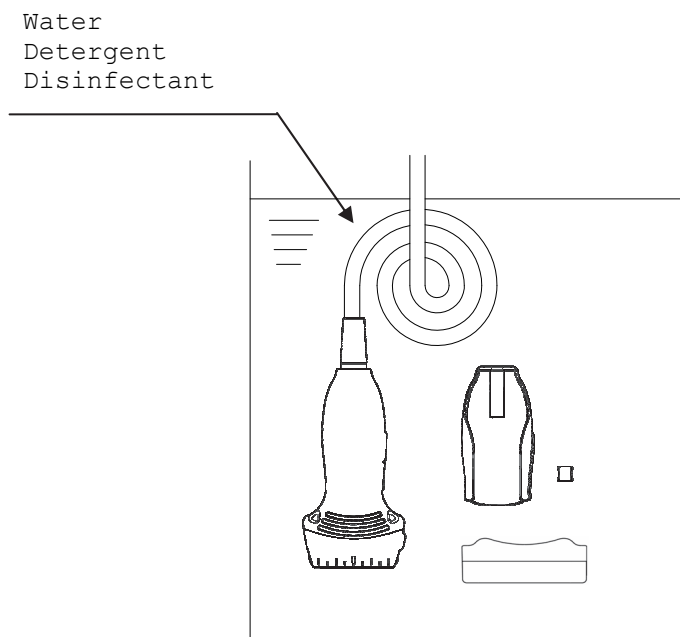

Fig. 17 Immersion of the probe, the magnetic sensor attachment, the spacer for EZU-RV2S and the elasto Coupler
- 2) Immerse the immersible part of the probe without connector into the diluted detergent solution (see Fig. 17). Wipe the immersible part of the probe under the surface of the detergent solution with a soft cloth to remove all visible soil. Be sure that all grooves of the probe are implemented during the cleaning process.
- 5) Rinse the probe with running tap water for 1 minute. (alternatively: immerse the immersible part of the probe in a tray filled with deionized water/tap water (see Fig. 17) for 5 min.)
- 4) Rinse the magnetic sensor attachment and the spacer for EZU-RV2S with running tap water for 1 minute. (alternatively: immerse them in a tray filled with deionized water/tap water (see Fig. 17) for 5 min.)
- 3) Immerse the immersible part of the probe into the disinfectant (see Fig. 17). Set a clock to insure the recommended contact time which is 5 minutes.
- 4) Rinse the immersible part of the probe with deionized water for 1 minute. (alternatively: immerse the immersible part of the probe in a tray filled with deionized water (see Fig. 17) for 5 min.)
- 2) Immerse the magnetic sensor attachment and the spacer for EZU-RV2S into the disinfectant (see Fig. 17). Set a clock to insure the recommended contact time which is 5 minutes.
- 3) Rinse the magnetic sensor attachment and the spacer for EZU-RV2S with deionized water for 1 minute. (alternatively: immerse them in a tray filled with deionized water (see Fig. 17) for 5 min.)